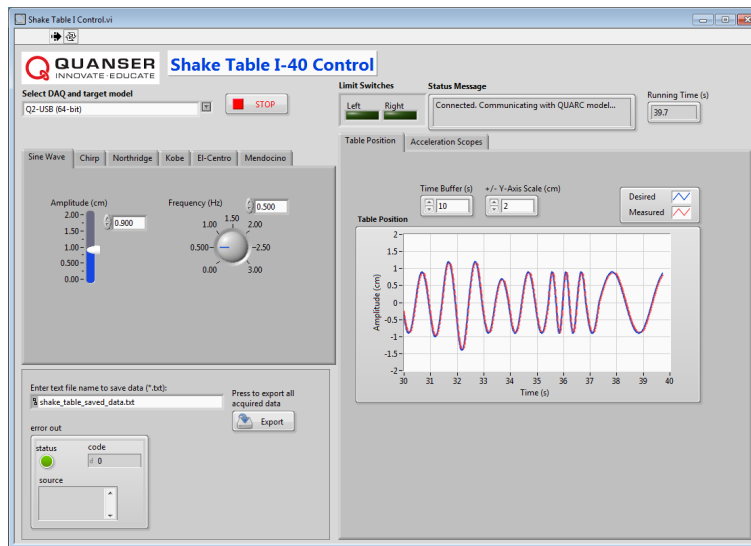

Figure 2.4: Running a sine wave
7. **Sine Wave:** The amplitude and frequency of the sine wave that the shake table is tracking can be changed by varying the *Amplitude (cm)* and *Frequency (Hz)* controls in the Sine Wave tab. A typical response is shown in Figure 2.4 when the amplitude and frequency of the sine wave are changed on-the-fly between 1 cm and 1.5 cm and the frequency from 0.5 to 1 Hertz. Remark that the sine wave is smoothed-out so changes in amplitude and frequency are gradual.